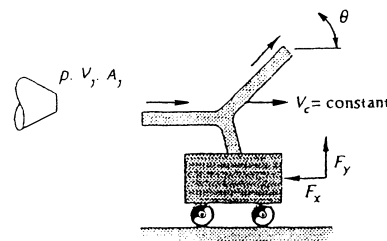

Fig. P3.55
**3.55** In Fig. P3.55 the jet strikes a vane which moves to the right at constant velocity  $V_c$  on a frictionless cart. Compute (a) the force  $F_x$  required to restrain the cart and (b) the power  $P$  delivered to the cart. Also find the cart velocity for which (c) the force  $F_x$  is a maximum and (d) the power  $P$  is a maximum.